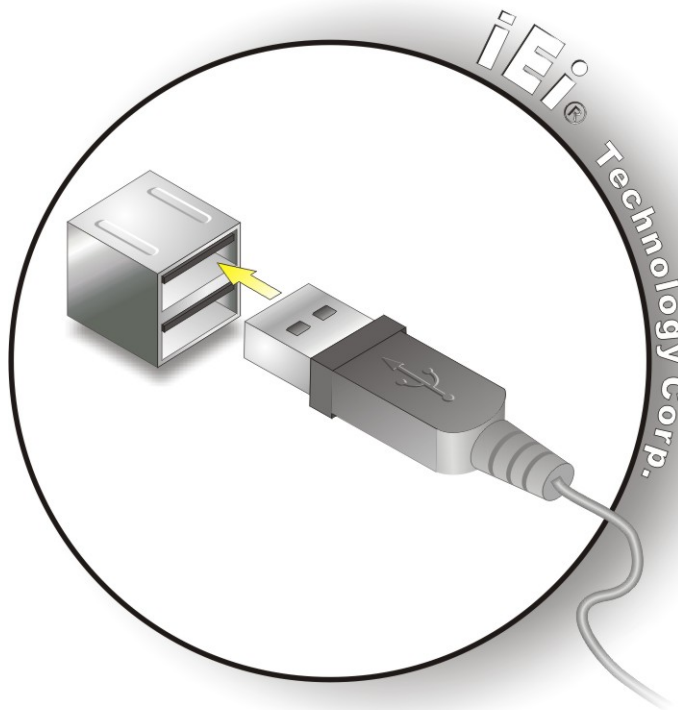

Figure 3-31: USB Device Connection
Step 2: Align the connectors. Align the USB device connector with one of the connectors. See **Figure 3-31**.